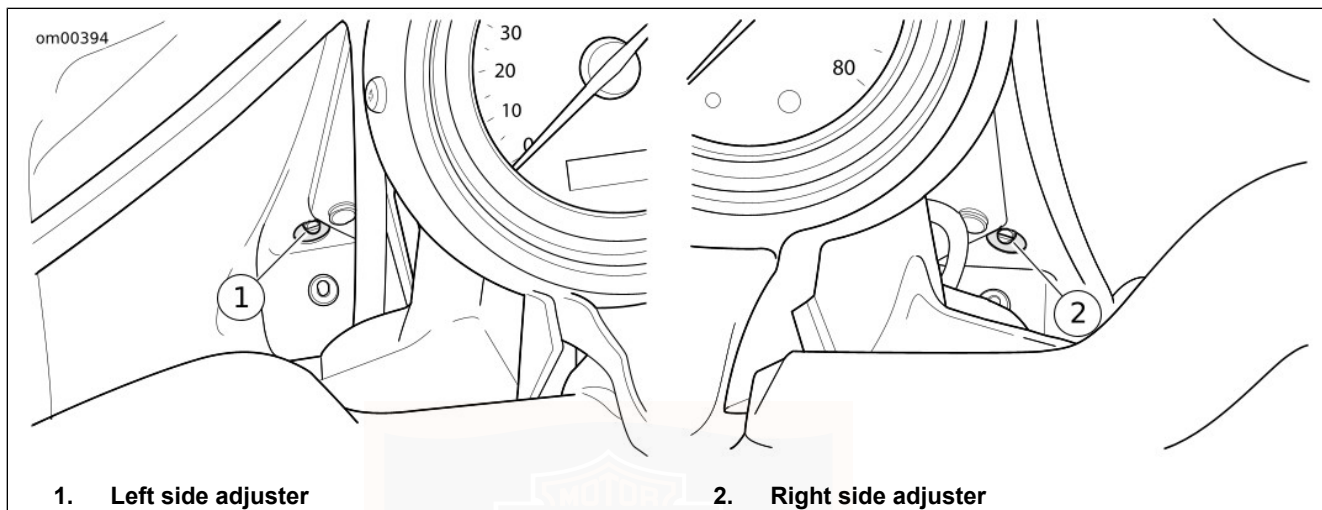

Figure 65. Headlamp Adjusters: Dual Headlamp Models
1. See Figure 65. Rotate the hex adjusters (metric) located near the bottom edge of the inner fairing. Refer to Table 39 for adjuster rotation.